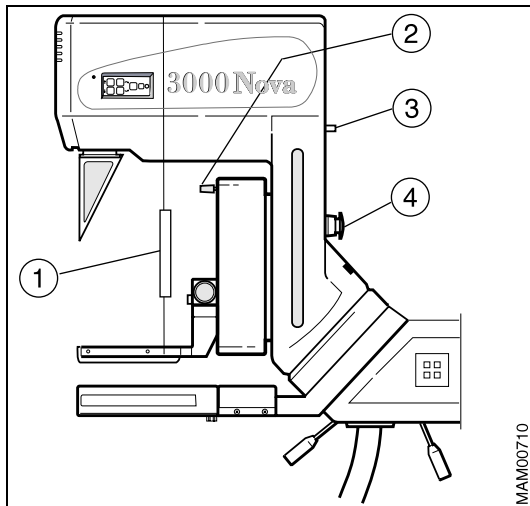

Fig. 1: Compression
- Attach the spring scale as shown in (1/Fig. 1 / p. 20) and be careful not to damage the compression plate during the following tests: Tolerance:  $\pm 1$  kp.
- Select any value (e.g. 6 kp) on the potentiometer (2/Fig. 1 / p. 20) and compress. Does the compression unit switch off at this setting?
- Select the maximum value (20 kp) with the potentiometer (2/Fig. 1 / p. 20). (20 kp). Does the unit switch off when it reaches the maximum value?
- Correct display (7/Fig. 1 / p. 13).